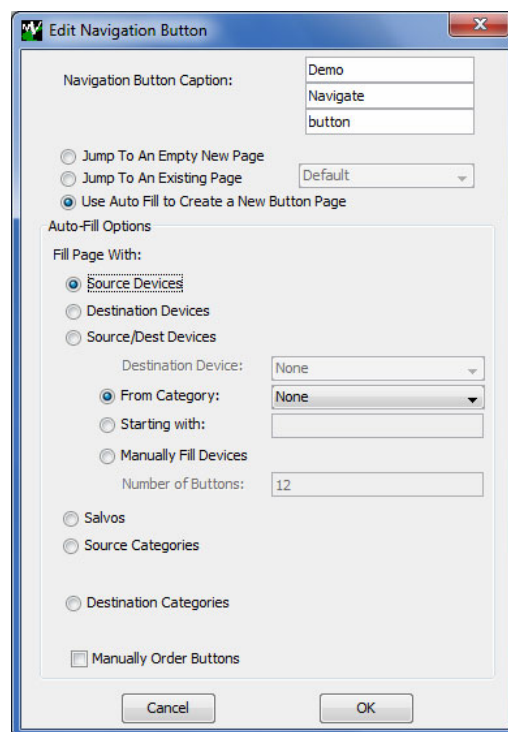

Figure 11-43. Edit Navigation Button Dialog Box
- **Use Auto-Fill to Create a New Button Page**—Activates auto-fill options. Auto fill automatically generates a number of button assignments on one or more subpages as defined in the 'Edit Navigation Button' dialog box, as shown in Figure 11-43 on page 333. Go to Step 5.